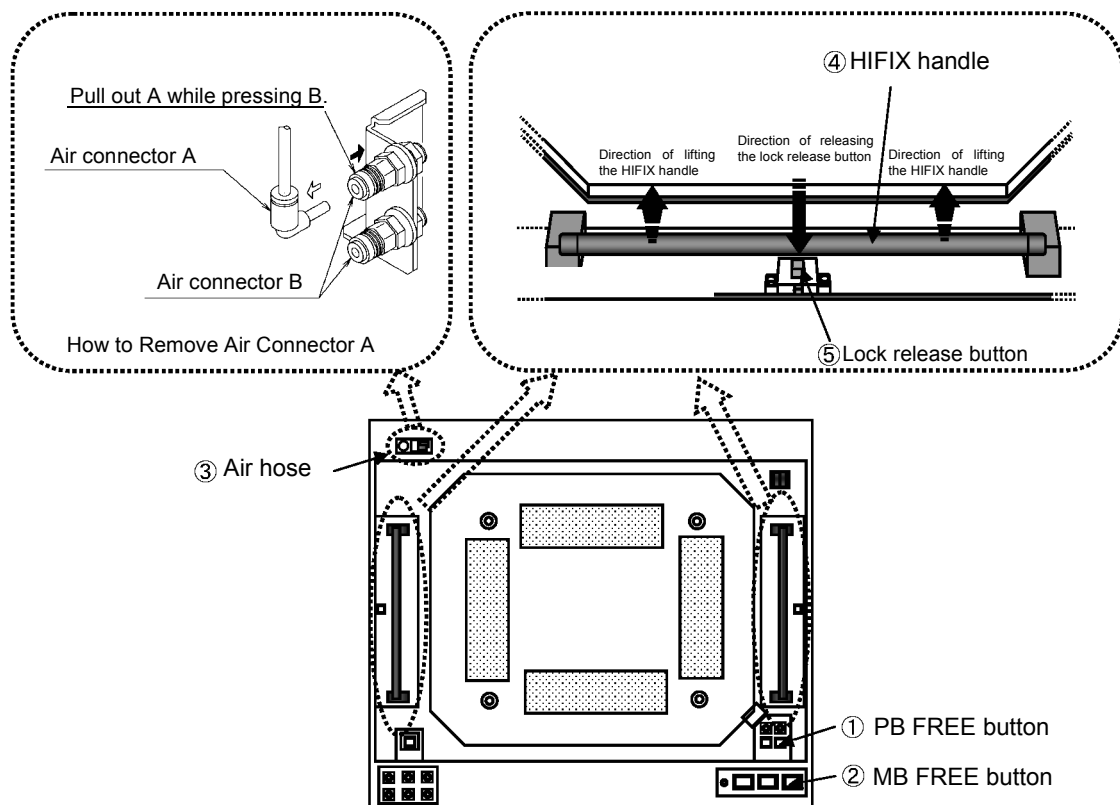

Figure 5-11 Top View of the Test Head (HIFIX Mounted)
- (1) Press the PB FREE button (① in Figure 5-11) to free the performance board and remove it.
- (2) Press the MB FREE button (② in Figure 5-11) to free the HIFIX.
- (3) Remove air connector A, which is connected to ③, as shown in Figure 5-11.
- (4) Lift the HIFIX handles (④ in Figure 5-11) while pressing the button ⑤ to release the lock, and remove the HIFIX.